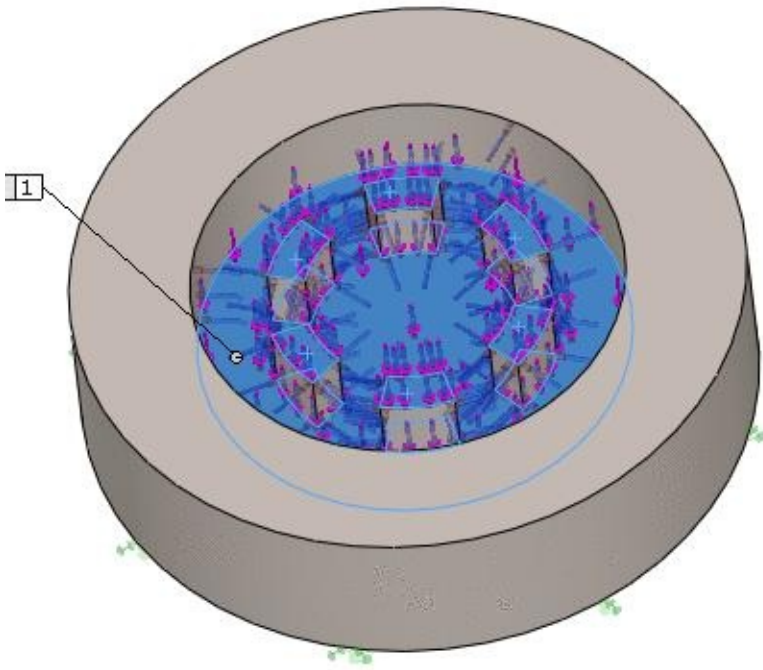

Figure-7. Faces for applying force
- Select the faces visible from the top of the model; refer to Figure-7.